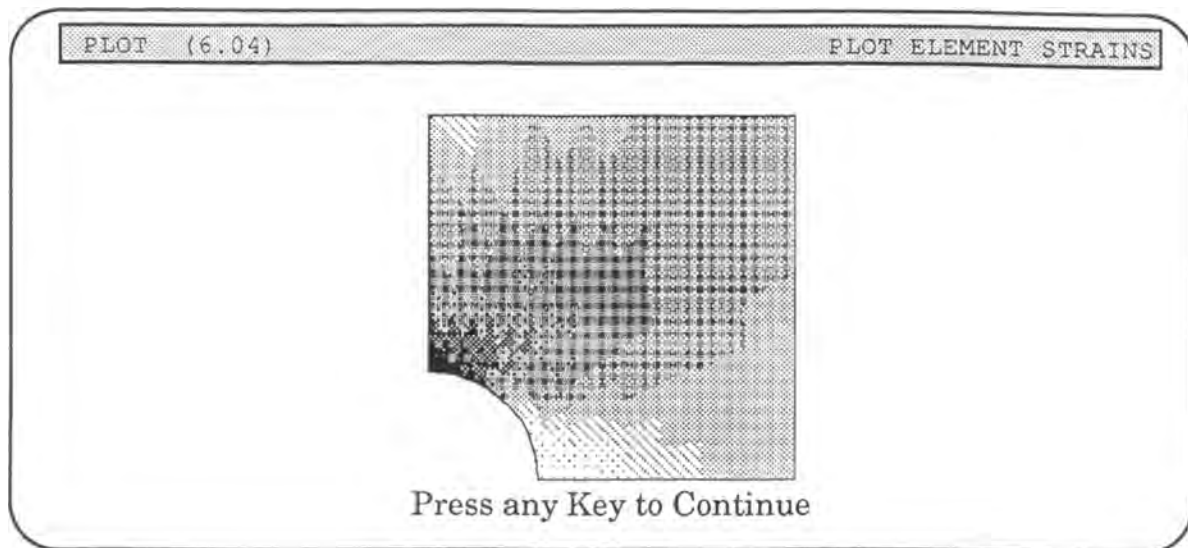

Fig 3.61 Element strain
- Press <Enter> twice (Fig 3.61) to skip the advanced features and to return to the component options .